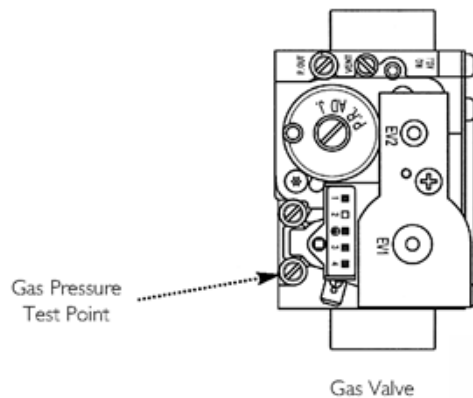

Fig. 55a
7. With the boiler operating in the maximum rate condition check that the operational (working) gas pressure at the inlet gas pressure test point (Fig. 55a) is in accordance with B.S. 6798 & B.S. 6891.